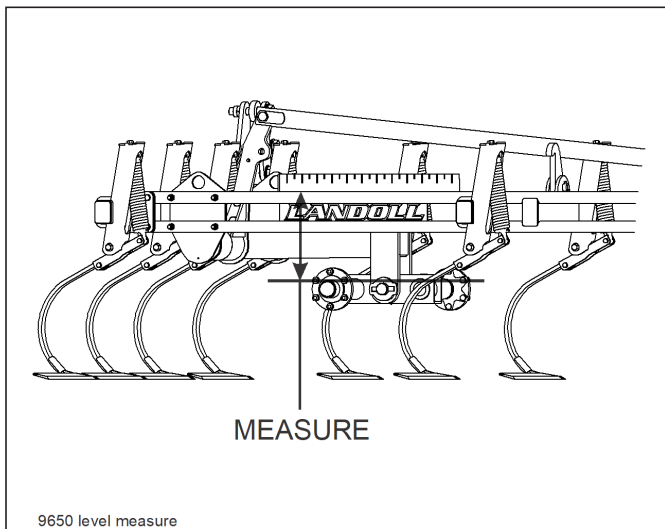

Figure 4-6: Leveling Center Frame from Side to Side
2. To level the unit, verify that all tires are properly inflated. With the implement unfolded, raise the unit to fully extend the lift cylinders. Continue to hold the tractor lever 30-60 seconds to insure that the cylinders are fully extended and the rephasing lift system has been purged of air. Lower the implement until the sweeps are approximately 1" off the ground. On the center frame, lay a straight-edge across the top of the frame, and measure the distance from the walking tandem spindle to the top side of the frame of both walking tandems See Figure 4-6. Adjust the lift arms at the front of the Field Cultivator center frame until the spindle heights are the same.